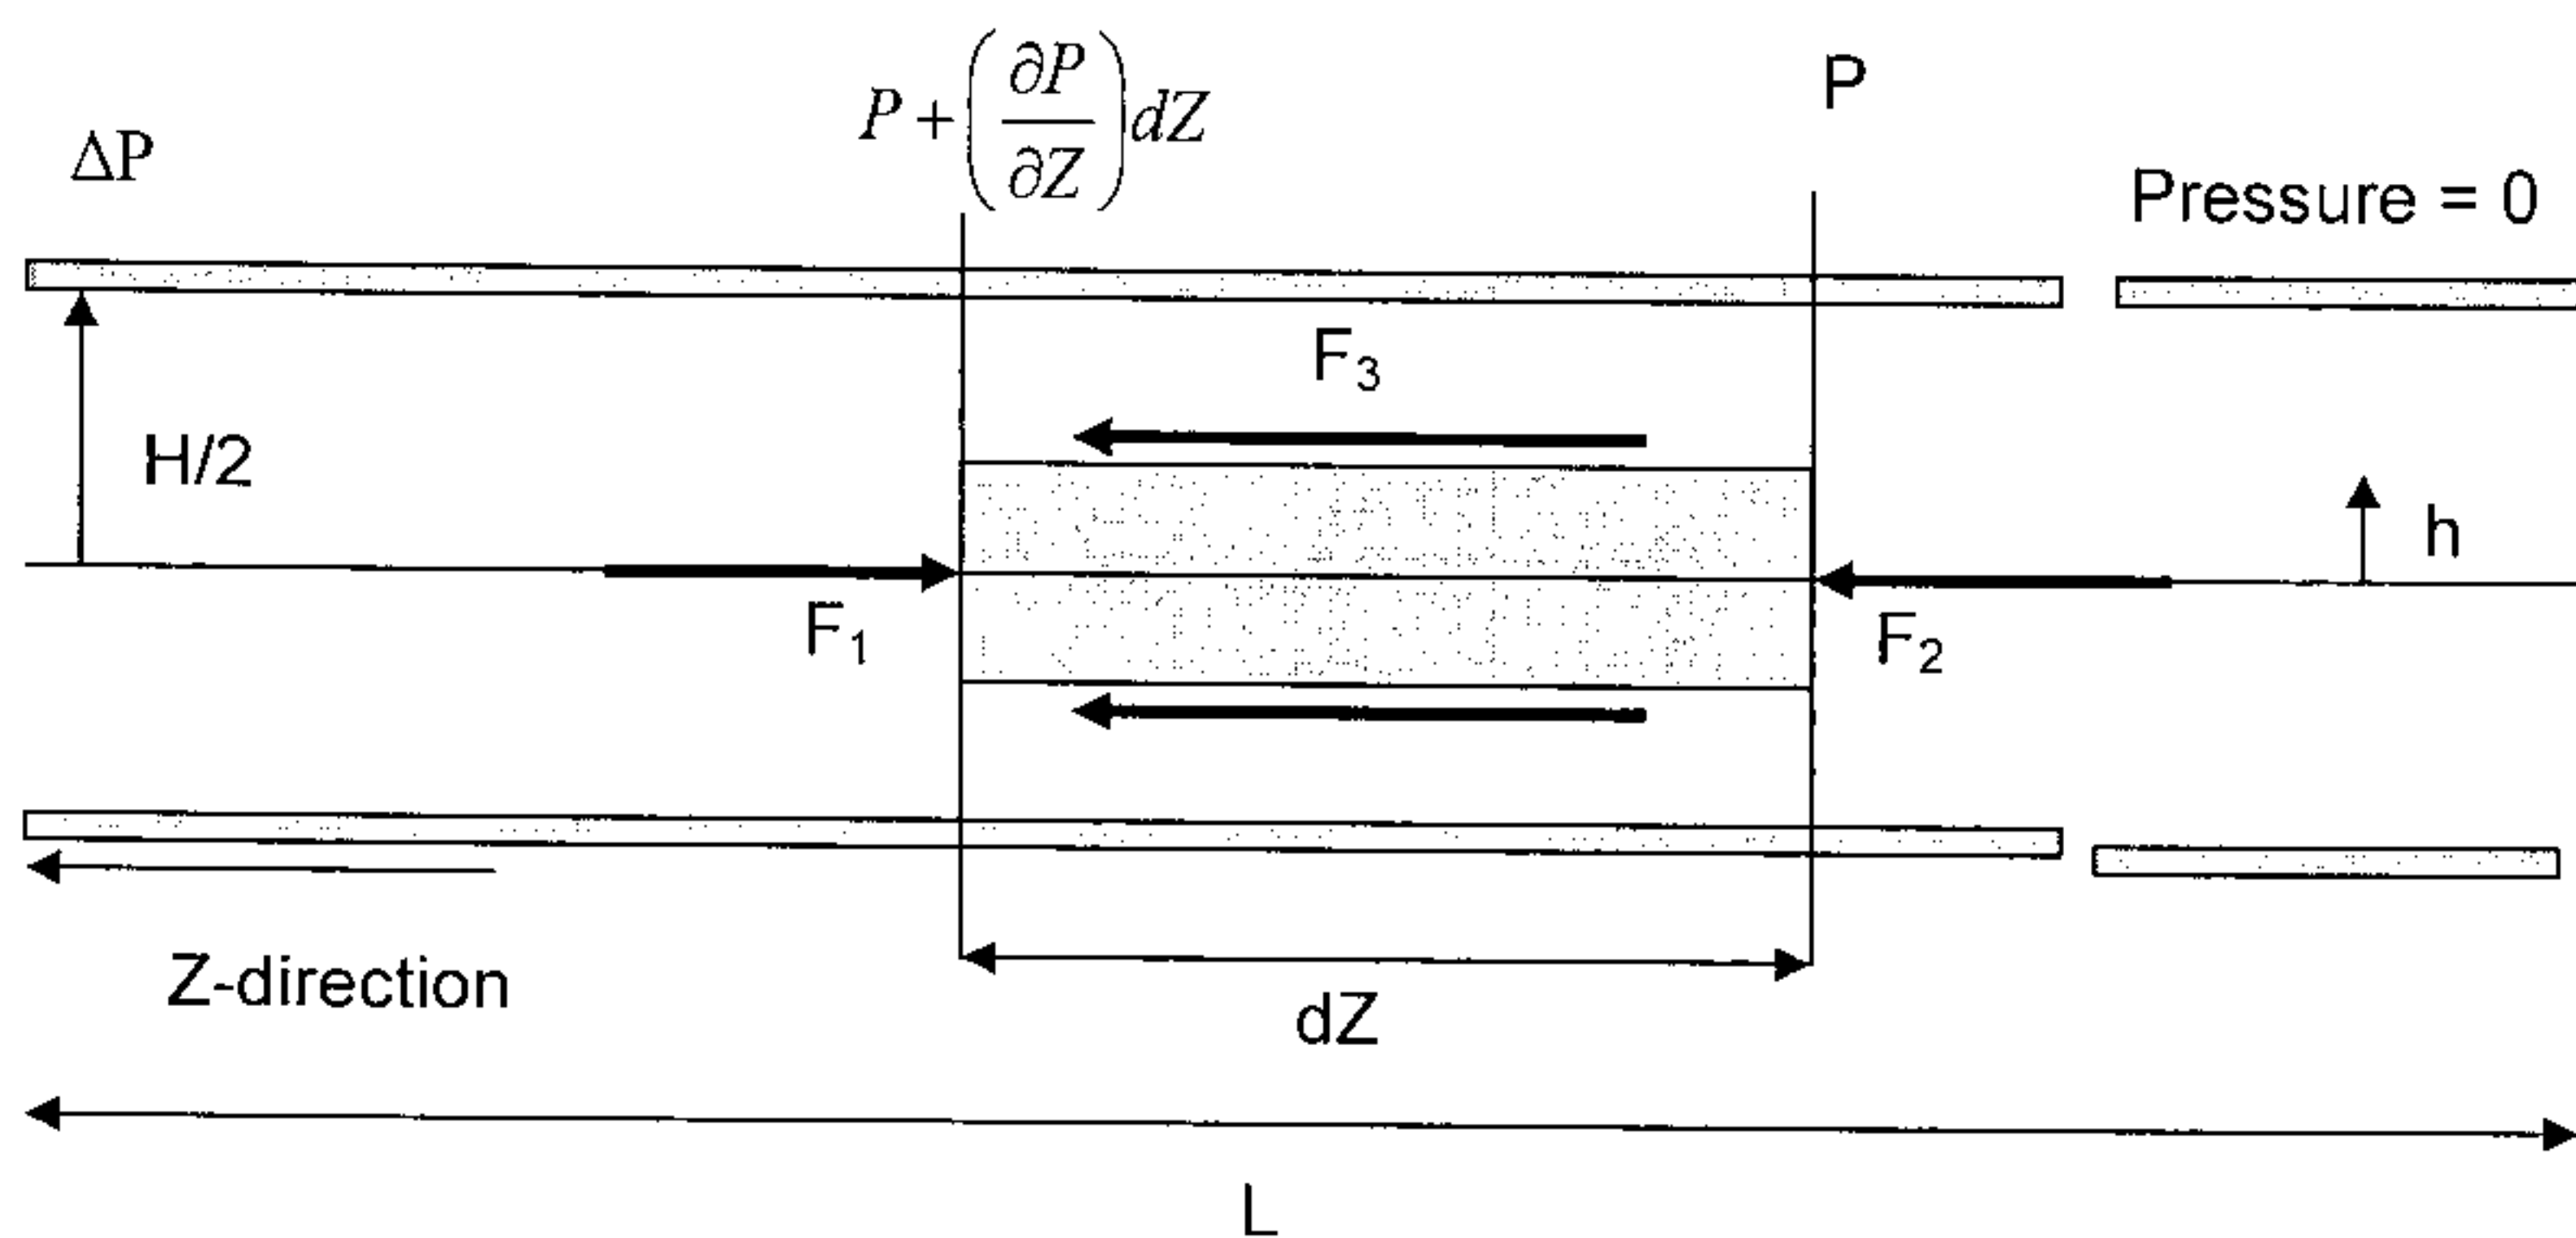

Figure 3 - Balances of forces on a fluid element moving along with the flow through between 2 wide parallel plates
- [d] Construct the expressions for shear rate at wall for a power-law fluid flow through between 2 wide parallel plates (Figure 3). State your assumptions.